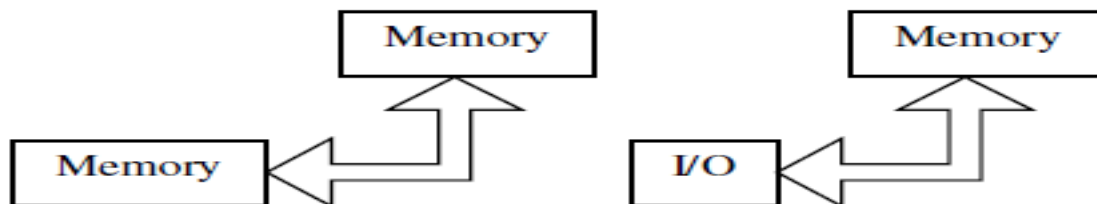

Fig. 7.12: data transfer without intervention by DSP
- The direct data transfer is referred to as direct memory access (DMA). The arrangement expected is shown in fig. 7.12. DMA controller helps in data transfer instead of DSP.